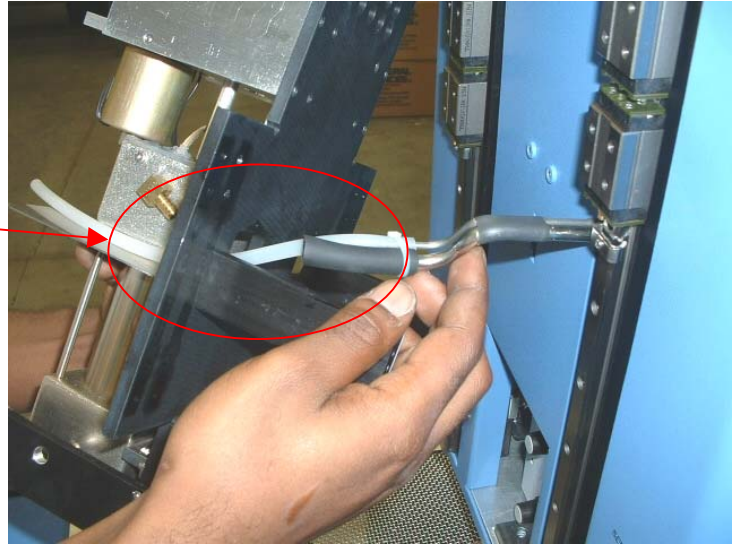

Figure 39
1. Carefully install the new heater assembly on the rails. Guide the vacuum line and tubing through the mounting plate. Make sure that the hoses are not pinched. Refer to figure 39.